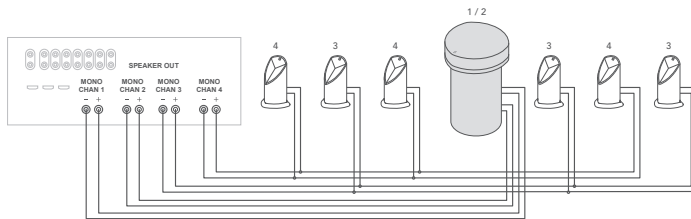
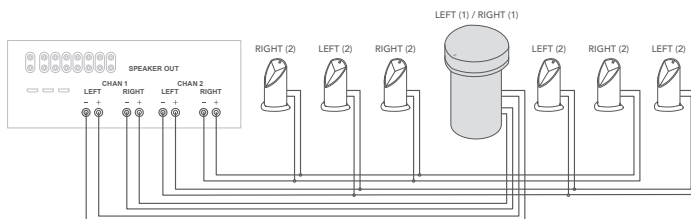

Figure 3
Figure 4
- Determine whether the system will operate in mono or stereo (see the example system connection diagrams in Figure 3 and Figure 4 on the next page). In some applications, the listening positions will never be equidistant from a left and right speaker, in which case mono may be the best option.
See the example system connection diagrams in Figure 3 (mono operation) and Figure 4 (stereo operation). If using more than one bollard per amplifier channel, it is recommended to use the 70V/100V configuration outlined below.